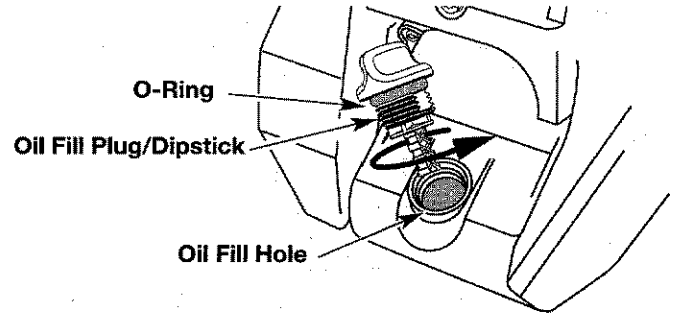

Fig. 18
3. Remove the oil plug / dipstick from the crankcase (Fig. 18).